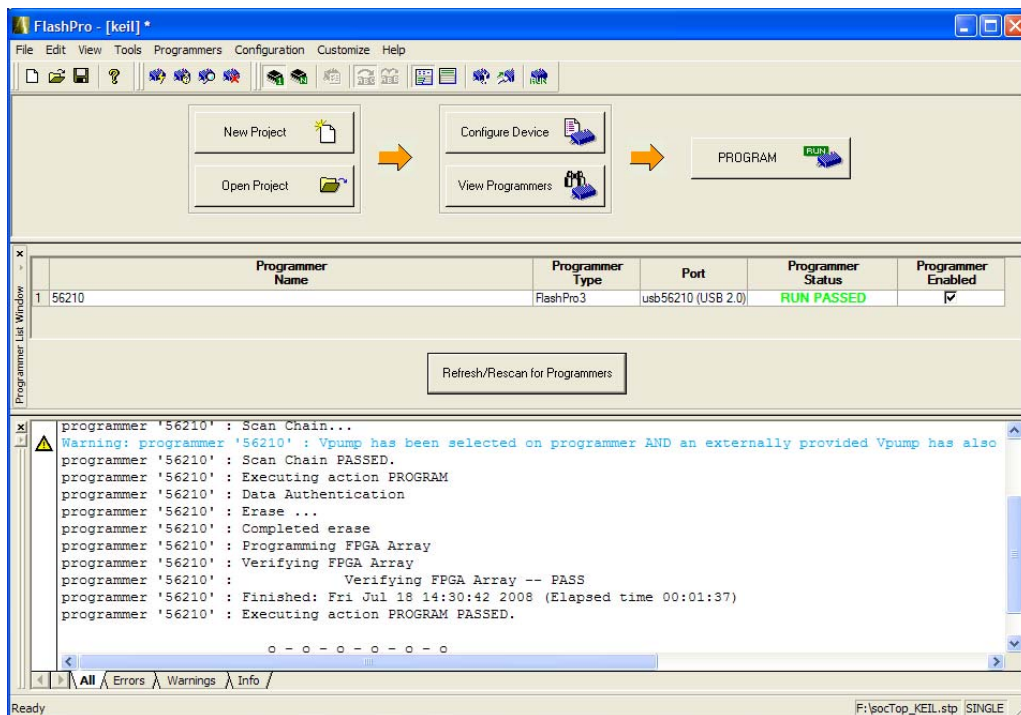

Figure 4 Cortex-M1 image loaded into the Actel FPGA Flash memory.
- 7) When the programming is successfully completed Figure 4 will be shown. The green RUN PASSED is a very good sign as is "Program Passed" in the comments window.